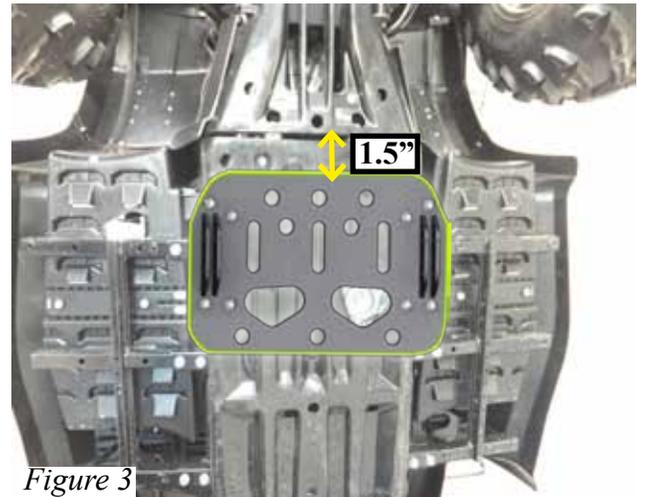

Figure 3
2. **(On the 500 HO / 500 S / 600)** Hold the mount up to the skid plate underneath the ATV. Measure 1.5" back from the front skid plate to the front of the mount. Shown in Figure 3. Center your mount and mark bolt holes using the mount as a template.